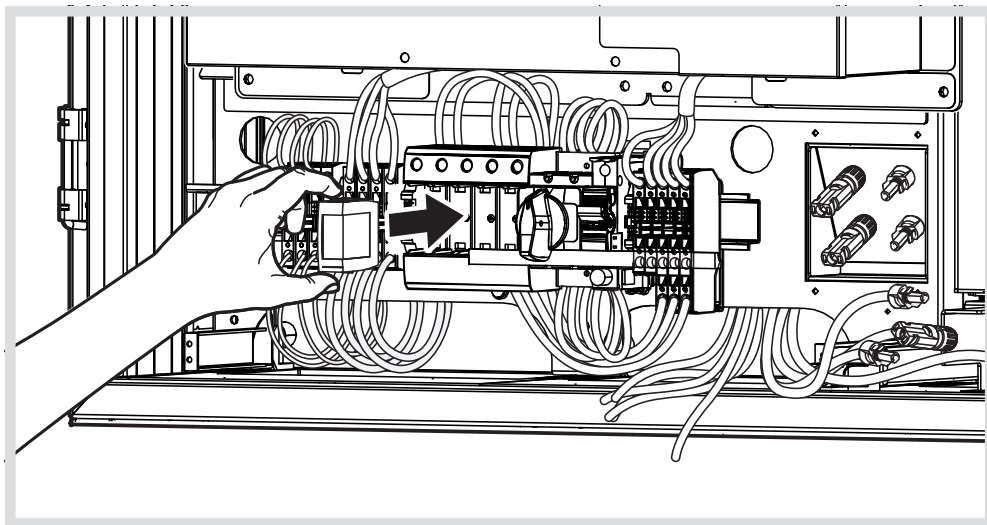

Figure 24: DEHNguard PV500 installation
- Push the DEHNguard PV500 supplied into the central overvoltage module mounting device until it clicks into place (Figure 24).